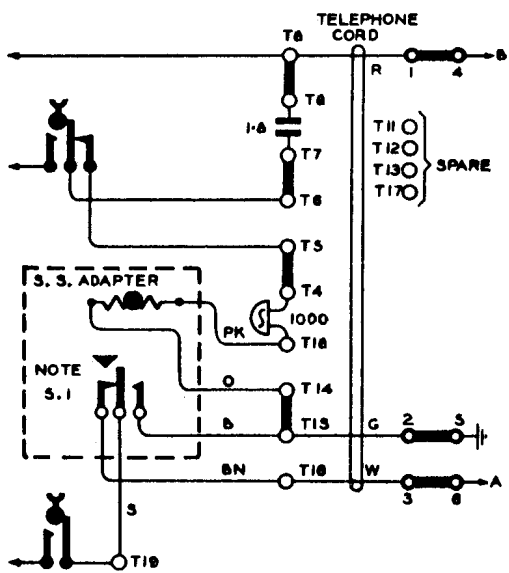

FIG 6
5.1 Fit adapter shared service HC 105 with label HC 107.... (colour), to the mounting bracket in the telephone, remove dummy button from case. Connect leads as shown in Fig. 6.
5.2 Connections for an "X" station are shown in Fig. 6 or 7. For a "Y" station, reverse A & B wires of exchange line at block terminals 4 and 6.